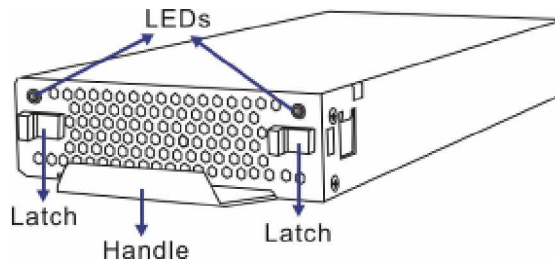

Figure 1-19: Cooling Module
The MAGELLAN series subsystem is equipped with two (2) 1U, redundant, dual-fan, cooling modules. (See **Figure 1-19**.) They are installed in the cooling module slots located in the upper section of the PSU bracket (see **Figure 1-**
18.) Two (2) LEDs on the rear panel indicate the internal cooling fans status. Use the latches and handle to insert and remove the cooling module from the subsystem.